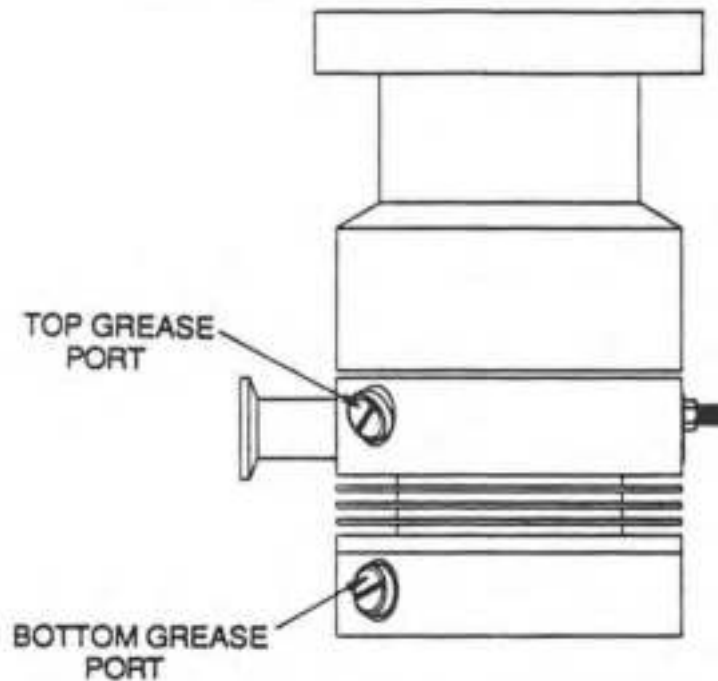

Figure 5-10. Turbo Pump Grease Ports
- 2 Remove the top grease port (see Figure 5-10).